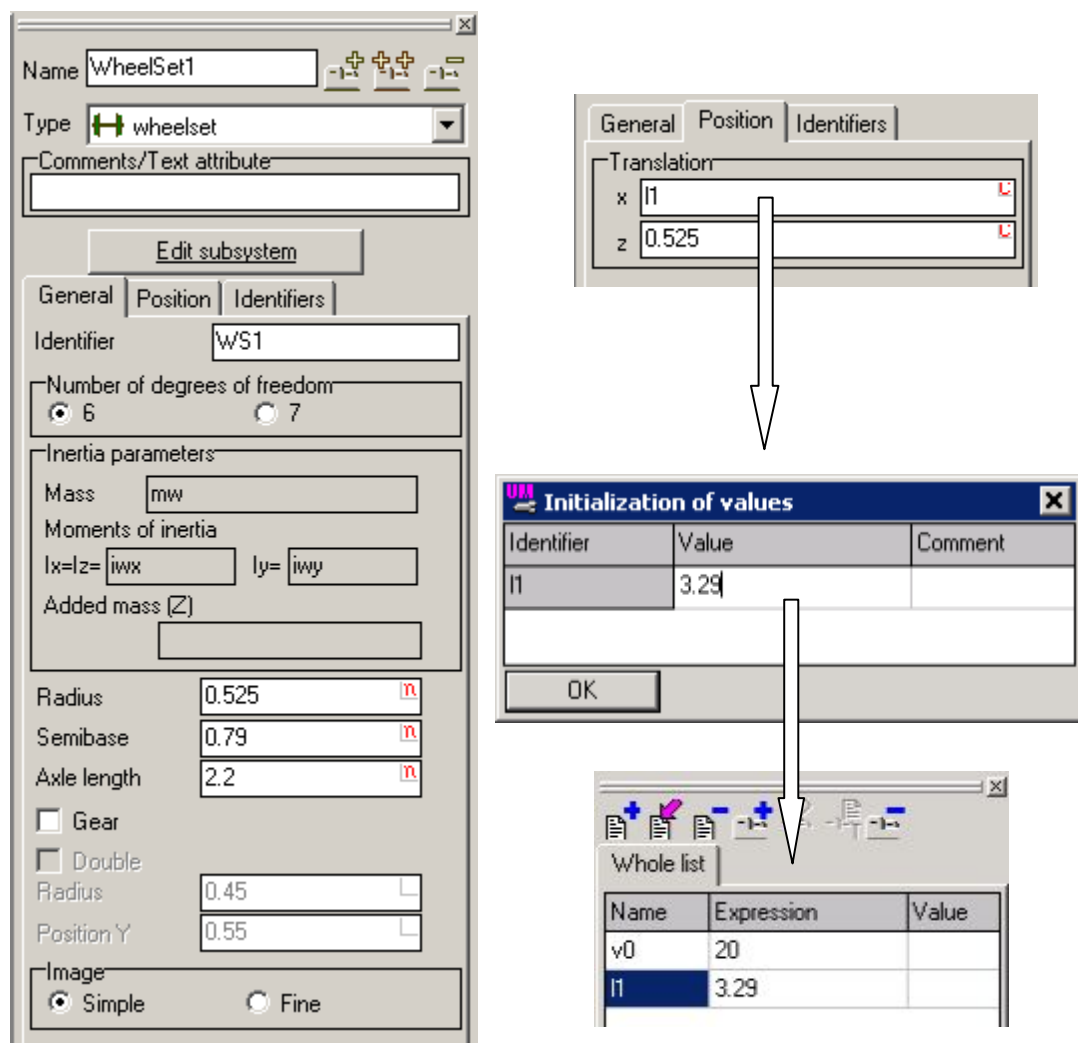

Figure 2.7. Wheelset parameters
Some of the wheelset parameters can be corrected right here, see Fig. 2.7).
2. Set **Axle length** to 2.2 m (Fig. 2.7, left).